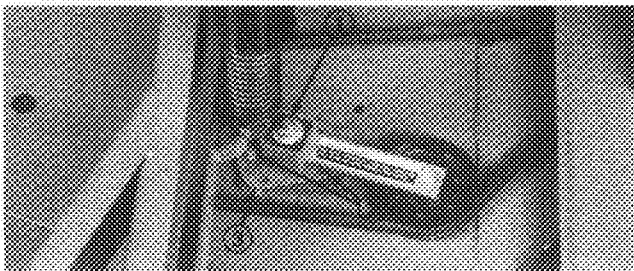

Figure 35
4. Check to make sure front height-of-cut pins are resting properly on frame cushions (Fig. 35). If pins are not resting properly, place a shim or shims under cushion to raise it for proper alignment.
3. Loosen two nuts securing idler plate in place (Fig. 35). Using a socket and torque wrench, tighten the idler adjusting nut (Fig. 35) until proper torque value is achieved.
4. Hold the torque against the belt and tighten the two nuts so idler plate is held securely in place (Fig. 35). Release the idler adjusting nut, install cover, and secure latches.
3. Loosen two nuts securing idler plate in place (Fig. 35) and remove old belt from pulleys.